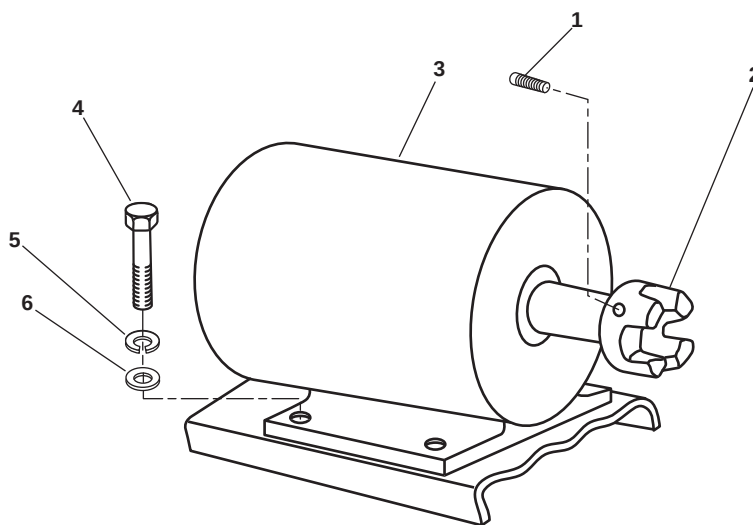

Figure 3. Electric Motor
7. Loosen the motor coupling flange setscrew (figure 3, item 1).
8. Slide the motor coupling flange (figure 3, item 2) towards the motor (figure 3, item 3).
9. Remove the four bolts (figure 3, item 4), four lockwashers (figure 3, item 5), and the four flat washers (figure 3, item 5). Discard the lockwashers.
10. Remove the motor (figure 3, item 3) from the foundation.
11. Slide the motor coupling flange (figure 3, item 2) off the motor shaft.
1. Slide the motor coupling flange (figure 3, item 2) onto the motor shaft (refer to figure 3) with the flat end towards the motor (figure 3, item 3) housing.
2. Position the motor (figure 3, item 3) on the foundation with the mounting holes aligned.
3. Install the four bolts (figure 3, item 4), four new lockwashers (figure 3, item 5), and the four flat washers (figure 3, item 6). Do not tighten at this time.
7. Tighten the motor coupling flange setscrew (figure 3, item 1).
8. Tighten the four bolts (figure 3, item 4).